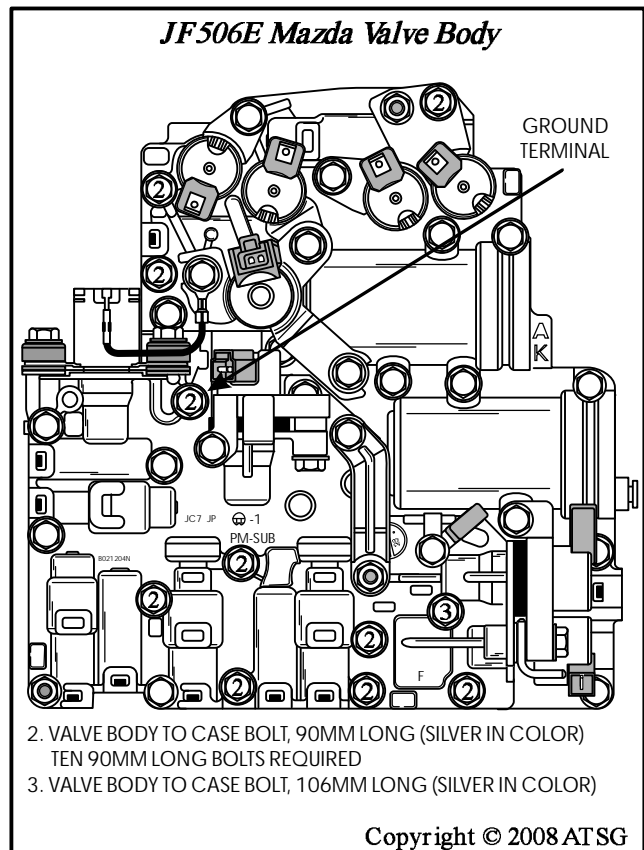

Figure 233
**Note: Notice that one is longer than all of the others. Figure 233 shows you where they are all positioned. Hand tighten only at this time.**
**Note:** Wire harness ground terminal goes under valve body to case bolt indicated in Figure 233.